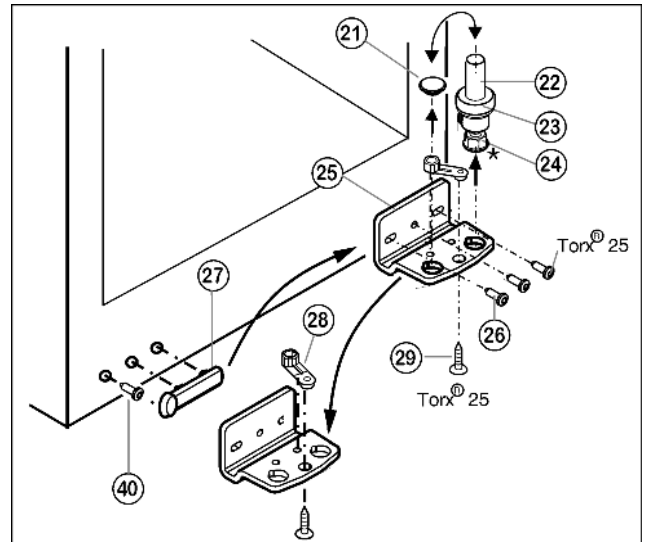

Fig. 5
- ▶ Lift out the bearing pin Fig. 5 (22) together with washer Fig. 5 (23) and adjustable-height foot* Fig. 5 (24).
- ▶ Lift off the stopper Fig. 5 (21).
- ▶ Unscrew Fig. 5 (26) the turn hinge Fig. 5 (25).
- ▶ Unscrew Fig. 5 (29) the bearing element Fig. 5 (28), transfer it to the opposite location hole of the turn hinge and screw it firmly into place.
- ▶ Carefully lift off the cover on the handle side Fig. 5 (27), undo the screw Fig. 5 (40) and transfer both to the opposite side.
- ▶ Screw the turn hinge Fig. 5 (25) firmly into place on the new hinge side, possibly using a cordless screwdriver (**with 4 Nm**).
- ▶ Re-insert the stopper Fig. 5 (21) into the other hole.
- ▶ Re-insert the bearing pin Fig. 5 (22) together with the washer and adjustable-height foot*. In so doing, pay attention that the locating lug points backwards
- ▶ Lift the stopper (33) out of the door bearing bush and transfer it.
- ▶ Dismantle the door handle (32), stoppers (33) and pressure plates* (34) and transfer to the opposite side.
- ▶ Place the door from above onto the lower bearing pin Fig. 5 (22).
- ▶ Insert the upper turn hinge (12) in the door on the new hinge side.
- ▶ Screw the upper turn hinge (12) **firmly** into place (with 4 Nm) (2x Torx® 25) (13). Possibly make preliminary holes with a bradawl or use a cordless screwdriver.
- ▶ Snap the cover (10) and cover (11) into place at the opposite side.
- ▶ Align the door to the appliance housing by way of the two oblong holes in the bottom turn hinge Fig. 5 (25). To do so, unscrew the middle screw.